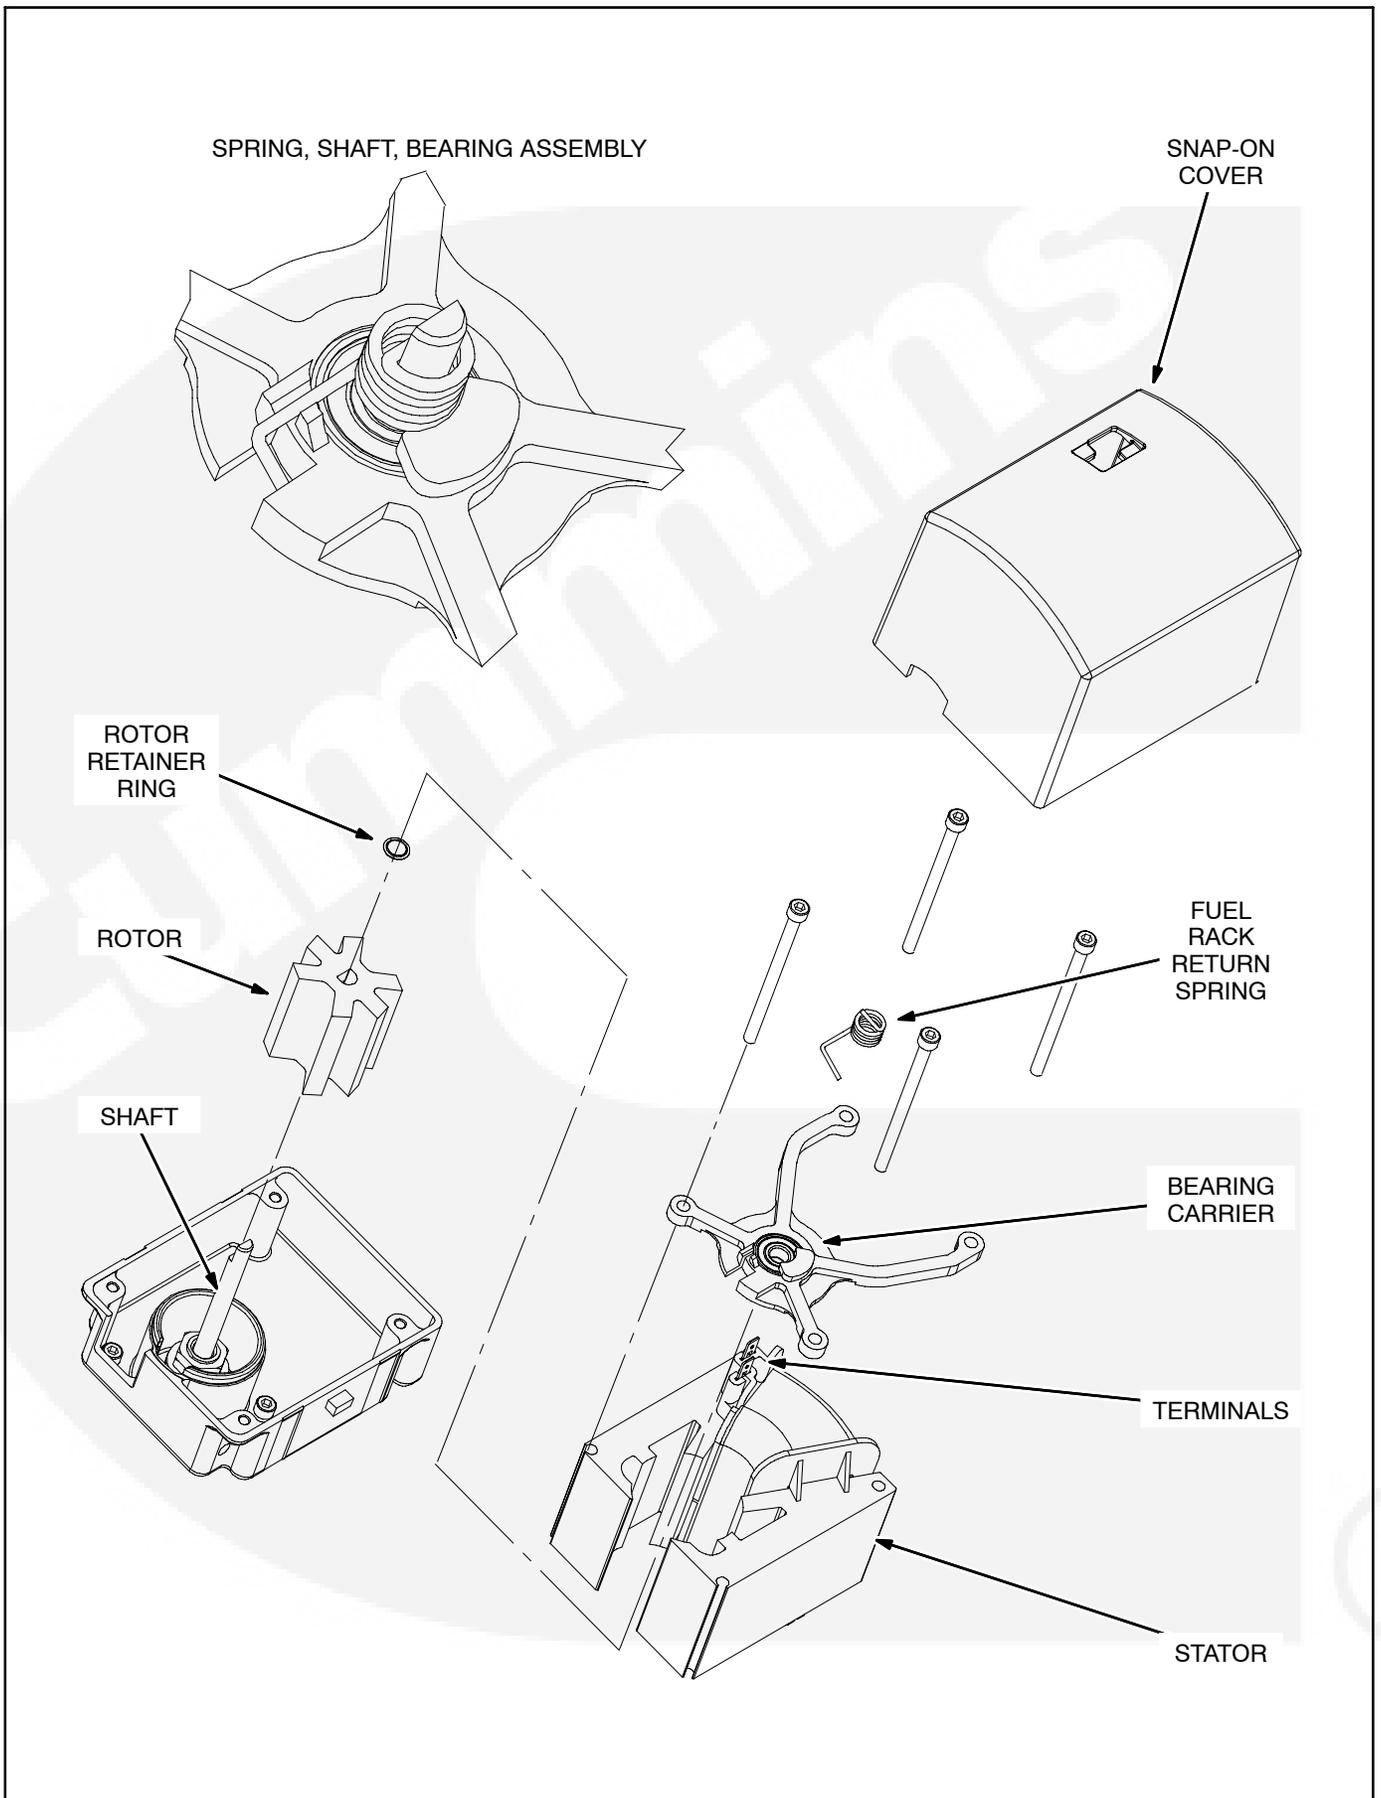
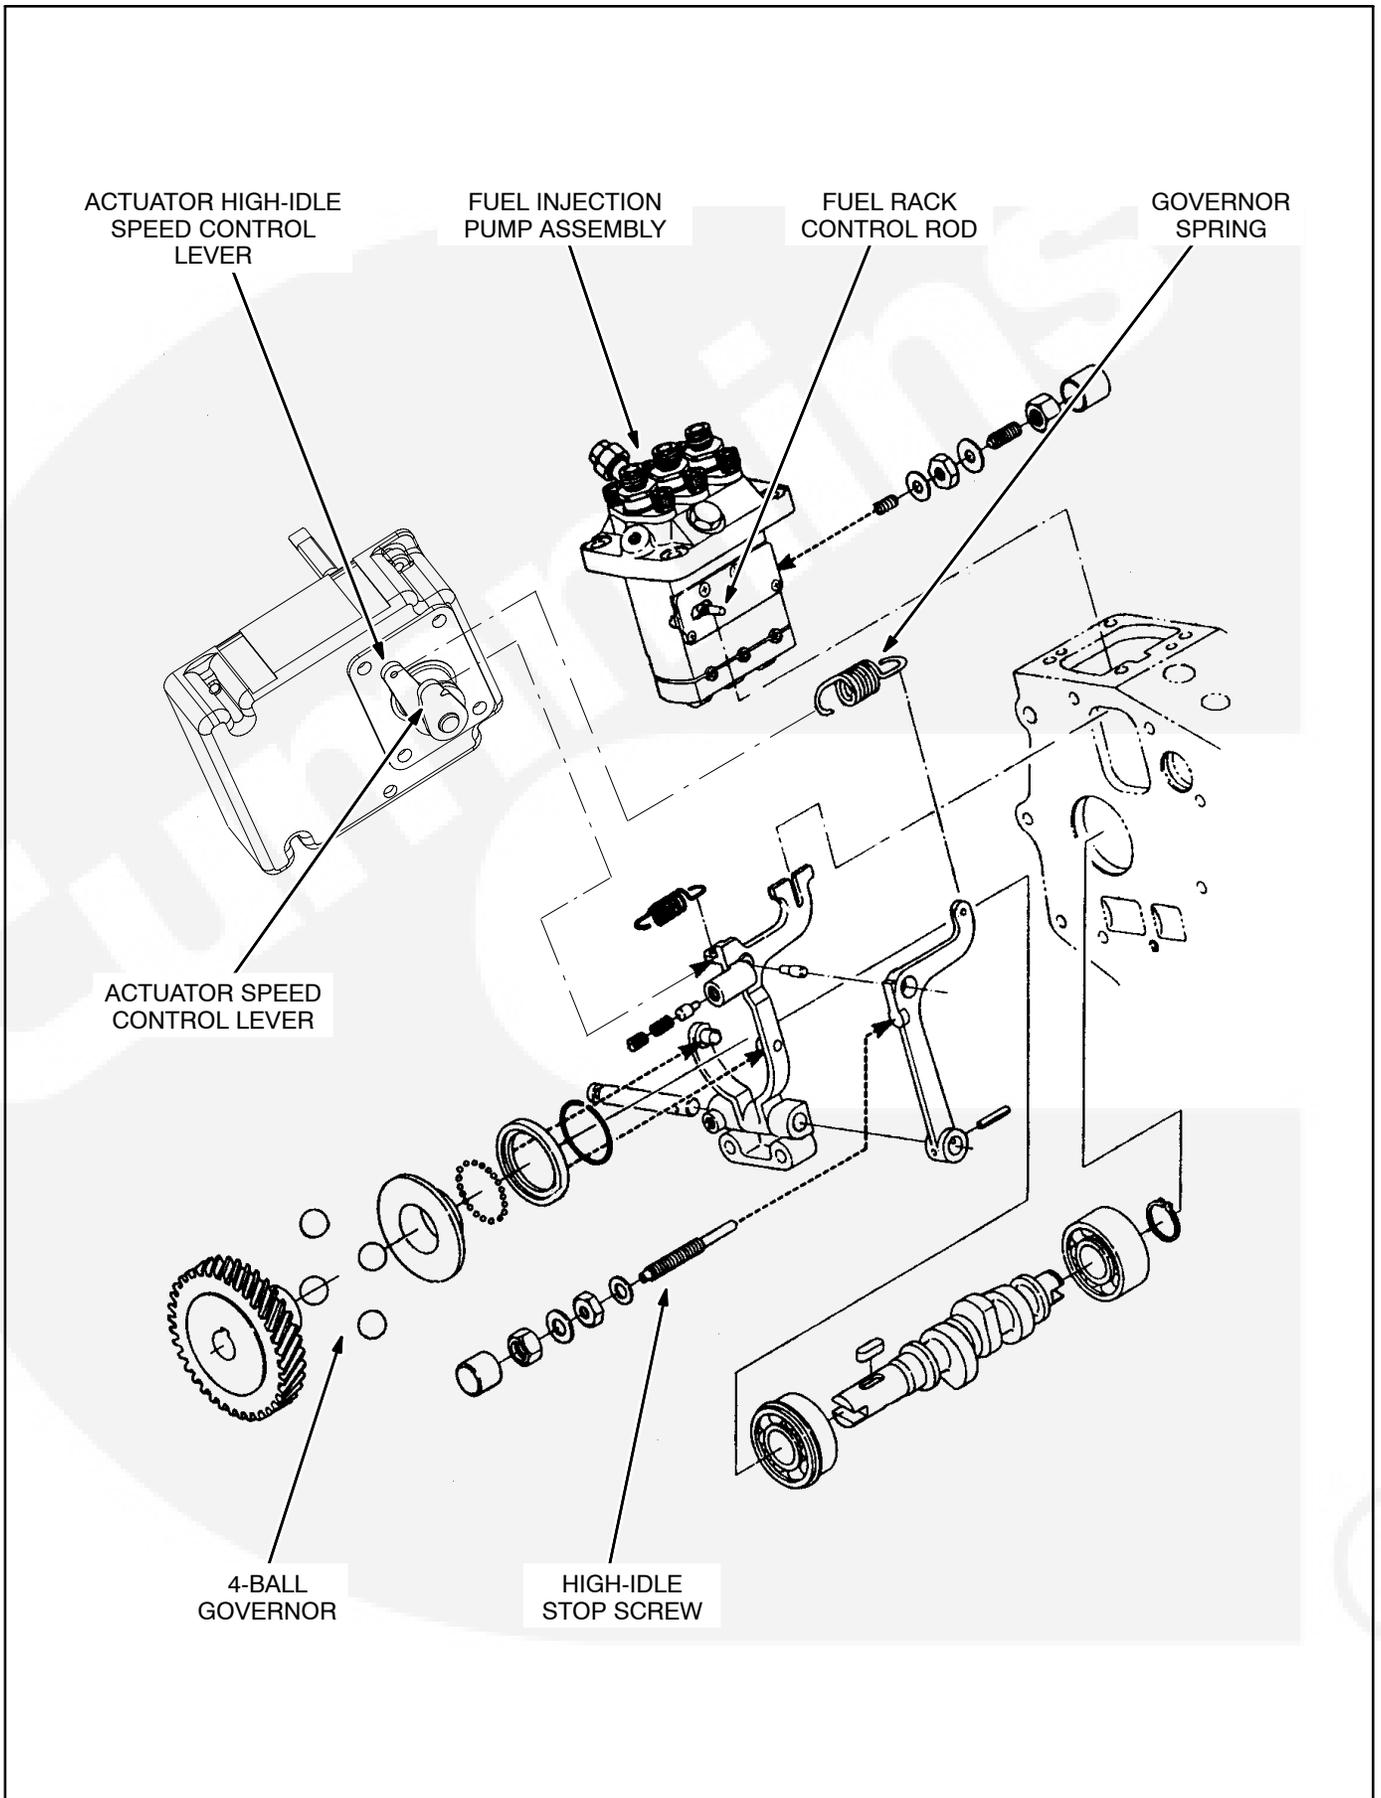

FIGURE 13-1. GOVERNOR ACTUATOR
FIGURE 13-2. INTERNAL GOVERNOR PARTS
The governor actuator (Figure 13-1) is powered by the genset controller to position the fuel rack (Figure 13-2) according to load demand.
Note: The engine governor used with these gensets has 4 steel balls (Figure 13-2) instead of the 8 shown in the engine Workshop Manual.
7. Check the fuel rack return spring for wear and replace it if worn. This spring returns the fuel rack to the no-fuel position. Push the spring on over the flat on the shaft and then pry the leg into its slot in the bearing carrier (Figure 13-1). The extension below the knee must catch under the bearing carrier. Finally, push the spring down as far as it will go on the shaft.
The actuator speed control lever stop (Figure 13-3) must be adjusted whenever a different actuator base assembly is installed. The stop screw, rather than the fuel rack control lever, must stop the speed control linkage when the fuel rack is driven to the no-fuel position (to the right, as shown in Figure 13-2).